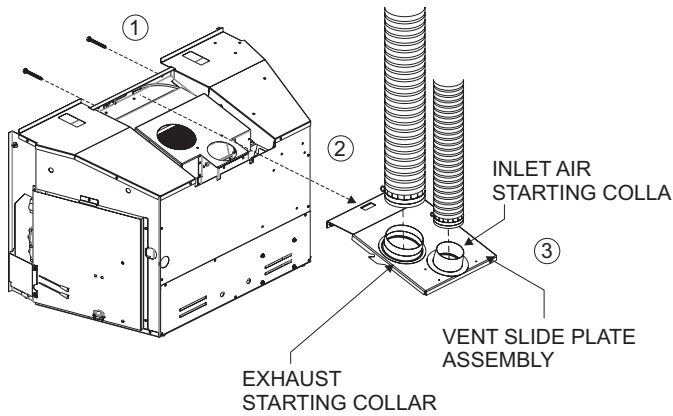

Figure 12
9. If necessary, remove the 2 hex screws from the vent slide plate assembly. Remove the slide plate from the top of the insert. See Figure 12.